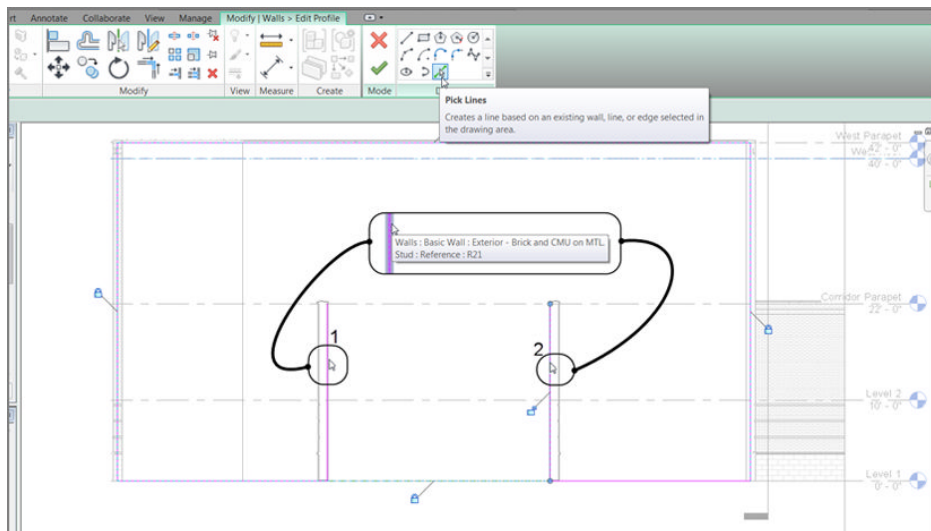

FIGURE 4.39: Tracing the walls to form a notch. This is done by selecting the Pick Lines icon and picking the walls.
1. On the Draw panel of the Modify | Walls > Edit Profile tab, click the Pick Lines icon, as shown in Figure 4.39.
2. Pick the inside face of the left wall (item 1 in Figure 4.39).
3. Pick the inside face of the right wall (item 2 in Figure 4.39).